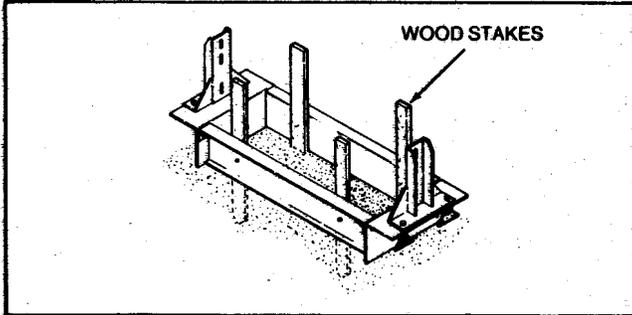

Fig. 18e
- (5) Nail the wood stakes to the mounting ring for ease in leveling. Center the mounting ring in the slab excavation and level it. (See Fig. 18e.)